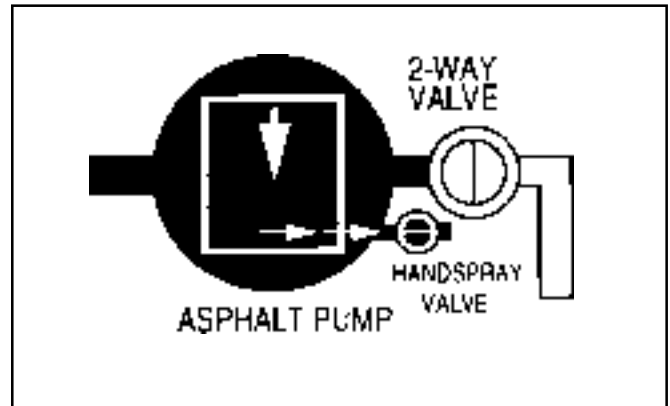

Figure 21 - Handspray Valve
9. If handspray wand was used, open the Handspray Valve (Figure 21) on the pump and keep it open for 30 seconds. Close the Handspray Valve and stow the wand and hose. It may be necessary to draw up some clean out solution into the hand spray hose to remove any oil in the hose and spray nozzle.
**NOTE:** If handspray wand was used, open the Handspray Valve (Figure 21) . Place a five gallon bucket under the wand to catch solvent. Do not contaminate the environment. Open and close the combination Grip & Spray valve on the handle until a small amount of solvent comes out of the wand. The on/off action will allow the air to come out of the hose and liquefy the asphalt in the wand to keep it from setting up. Close the Handspray Valve. Cover bucket with a snap-on lid to contain cleaning material. Dispose of cleaning material according to local, state and federal regulations.